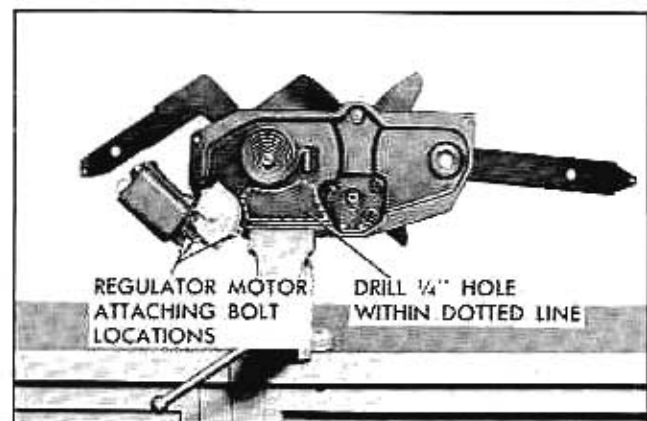

Fig. 4-17 Tail Gate Window Regulator
2. Place regulator assembly in a vise as shown in Fig. 4-17.
3. Drill a $\frac{1}{4}$ inch hole through regulator backplate and main sector within area indicated by dotted lines (Fig. 4-17).
5. Remove three motor attaching bolts, at locations shown in Fig. 4-17, and remove motor assembly from regulator.
2. Using a hooked tool or other suitable tool, remove clutch spring retainer; then remove clutch washer and spring washer, and remove clutch and lock cylinder assembly from unit (Fig. 4-17).